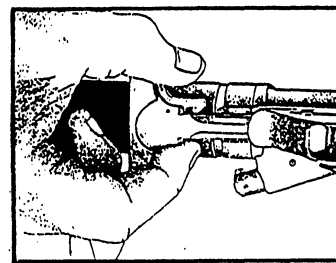
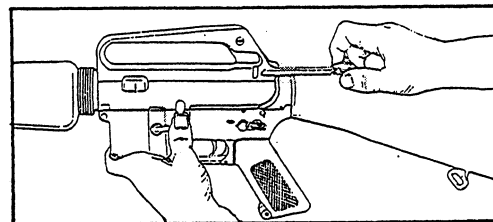
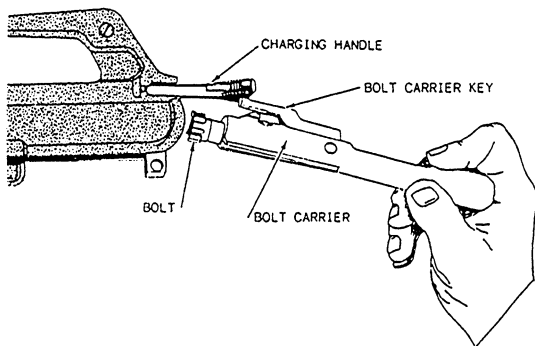
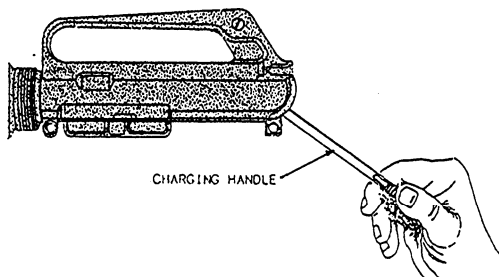

Figure 3-7.—Pulling the charging handle rearward.
Figure 3-8.—Locking the bolt open.
Figure 3-13.—Removing bolt carrier from receiver.
Figure 3-14.—Removing the charging handle.
3. Lock the bolt open, as shown in figures 3-7 and 3-8. Grasp the charging handle with the thumb and
forefinger of the right hand, depress the charging handle, latch it with the right thumb, and pull to the rear (fig. 3-7). When the bolt is fully rearward, press the bottom of the bolt catch with the thumb or forefinger of the left hand (fig. 3-8). Allow the bolt to move slowly forward until it engages the bolt catch, and return the charging handle to its forward position.
4. Pickup the upper receiver group, keeping the muzzle to the left. Grasp the charging handle; press in on the latch and pull it to the rear (fig. 3-7) to remove the bolt carrier from the receiver. Grasp the bolt carrier and pull it from the receiver (fig. 3-13). When the bolt carrier is removed, the charging handle frills free of its groove in the receiver (fig. 3-14). Place the receiver on the table.
the charging handle fully to the rear with your right hand and release it. (See fig. 3-7.)